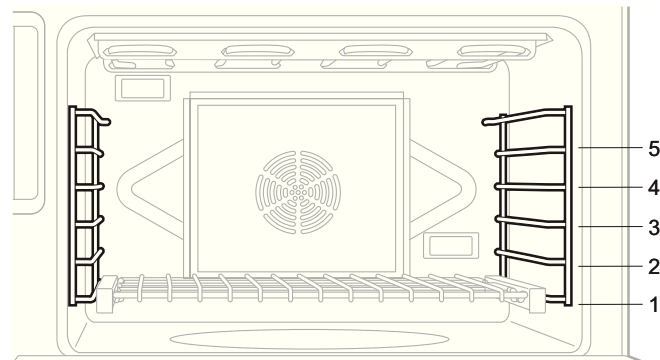

Figure 29: Large Electric Main Oven with Rack Positions
- Rack level positions in the oven are numbered like an elevator. Number one level is the lowest (*Figure 29*).